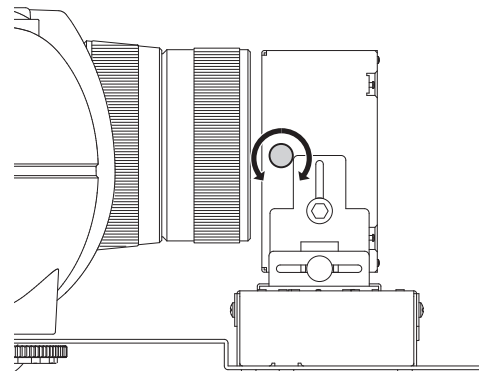

Figure 30
5. This is the final adjustment. Using a Phillips-head screwdriver, adjust the focus of the anamorphic lens so that the test pattern appears as sharp as possible. Refer to Figure 30.